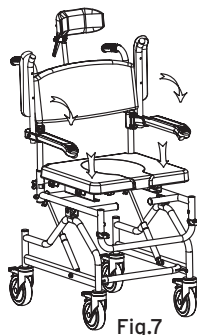

Fig.7
- Place the seat on the wheelchair frame and press down to fix its position, then add the cover (Fig. 7);